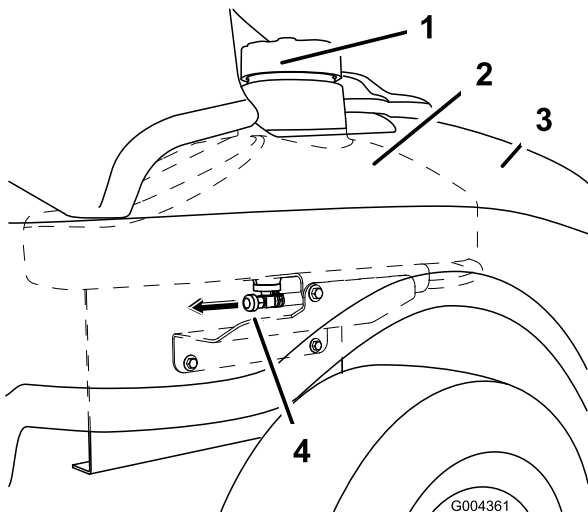

Figure 39
3. Close the fuel shut-off valve located under the front of the fuel tank (Figure 39).
- Open the fuel shut-off valve. Allow fuel to drain into a gas can or drain pan (Figure 39).